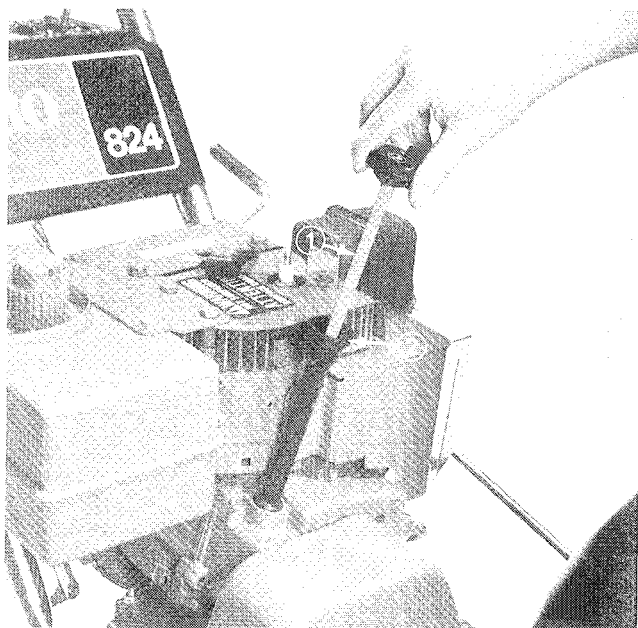

Figure 14
3. Remove dipstick from crankcase (Fig. 14).
4. Slowly, pour SAE 5W-30 or SAE 10 oil into the filler hole (Fig. 14), using oil fill chart below. The engine uses any high-quality detergent oil having the American Petroleum Institute — API — “service classification” SC, SD, or SE.